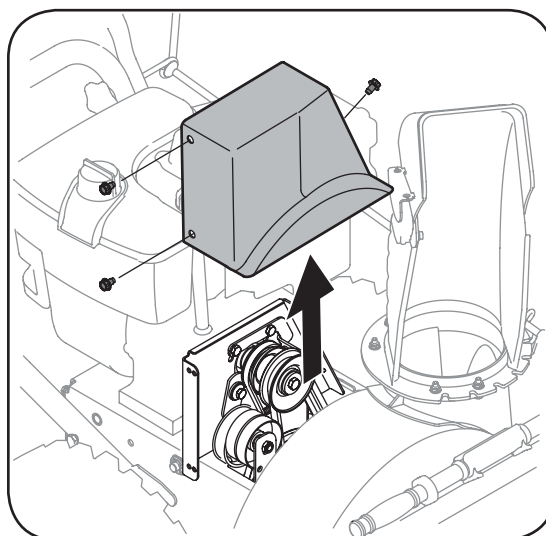

Figure 6-5
2. Remove the plastic belt cover, located near the engine, by removing the three self-tapping screws that secure it. See Figure 6-5.